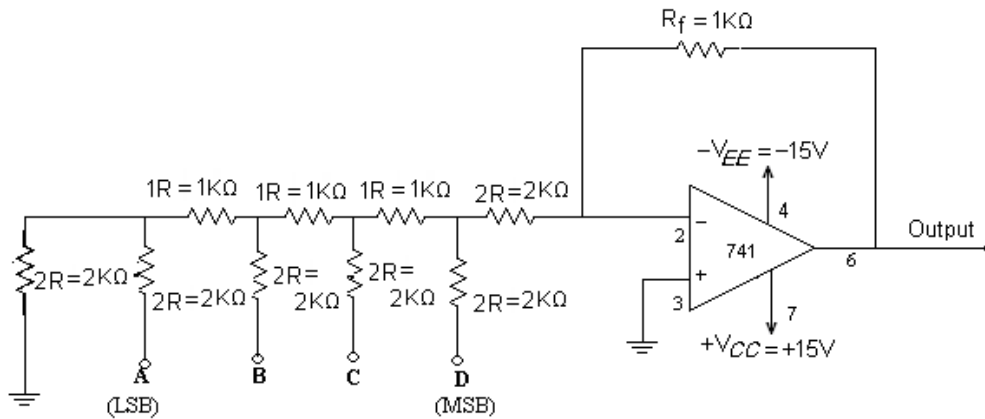

Fig 2: R – 2R Ladder DAC
3. Repeat the above two steps for R – 2R ladder DAC shown in Fig 2.